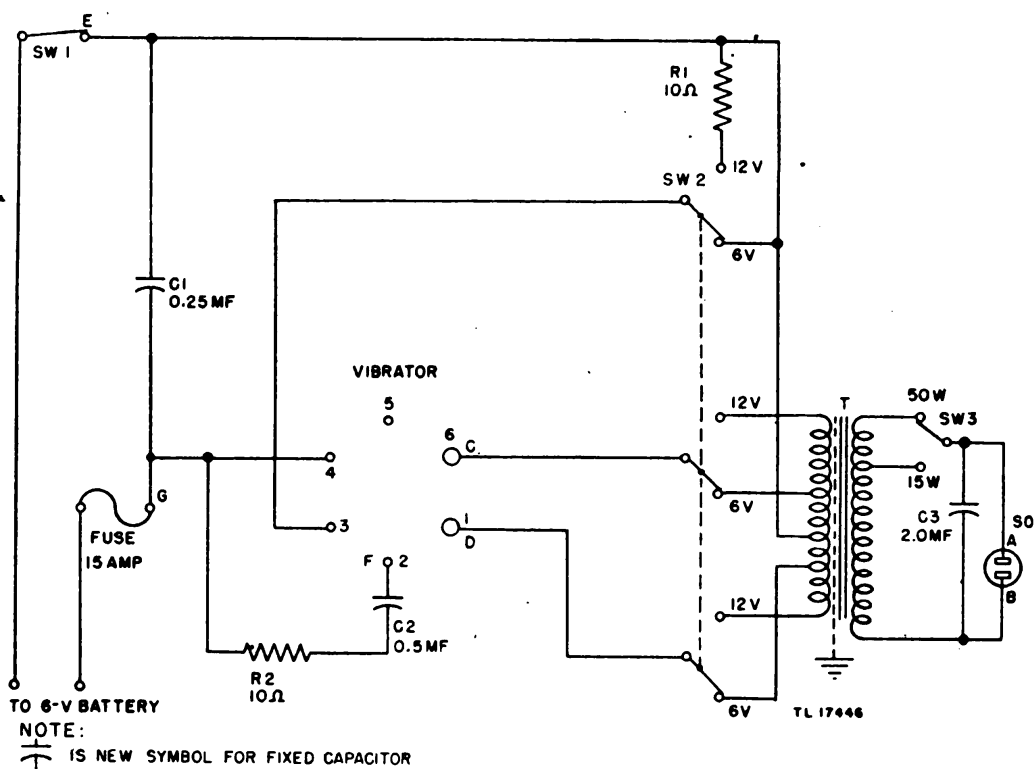

Figure 10. Vibrator Pack PP-68/U, test circuit.
a. **Voltage Checks.** Connect the vibrator pack to a 6-volt storage battery by securing the battery clips to the battery terminals. Disconnect the test equipment a-c input plug from the vibrator pack output receptacle SO. Throw input switch SW2 to the 6-volt position, output switch SW3 to the 50-watt position, and the ON-OFF switch to ON. Refer to figure 10. The following point-to-point voltages should be measured:
**b. Resistance Checks.** Throw the ON-OFF switch to OFF. Disconnect the battery clips from the storage battery. Use a low-resistance ohmmeter. Refer to figure 10. The following approximate point-to-point readings should be obtained: